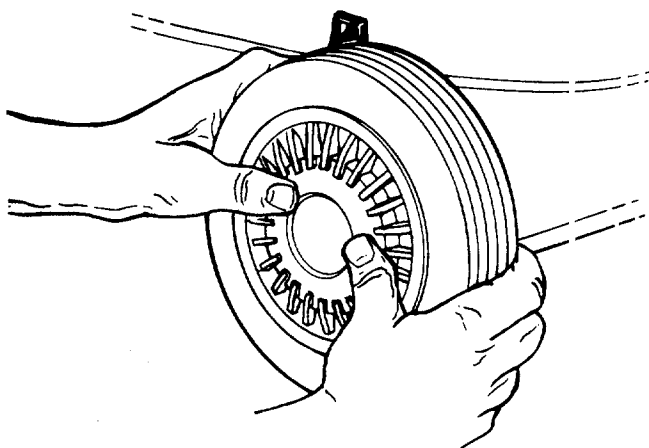

FIGURE 8.—Optional Hub Caps
2. If your mower is equipped with 2" wide tires, place front hub caps in position against the inner hub of the wheel. Press firmly around the center portion of hub cap in a circular motion, similar to installing a lid on a round, plastic container. See figure 8. The hub caps are flexible and will snap over the 3½" diameter wheel hubs.